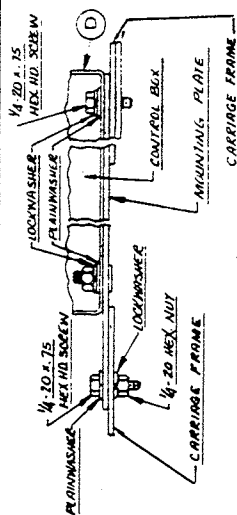

FIG. 4
- D. Install the control box (D) to the upper right front corner of the carriage using the hardware supplied. For LAF-3, -4 & -5, install control box per Fig. 5. The LAF control box must be electrically isolated from the carriage frame. For MA-3 & MA-4, install control box mounting plate to the bottom of the control box and then mount the assembly to the carriage per Fig. 4.